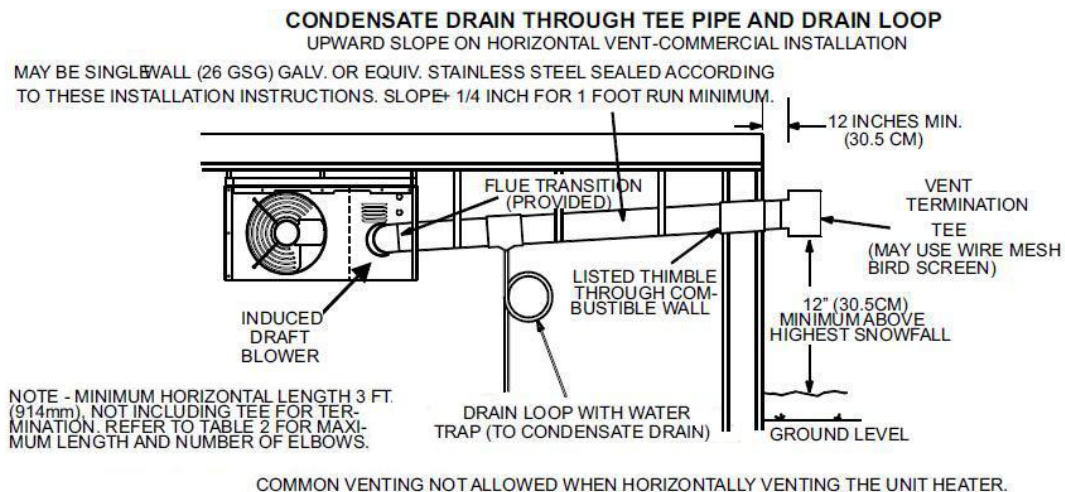

Fig.4
1. Horizontal commercial installations are for buildings which are not attached to living spaces. The vent may be single wall vent material installed according to the sections General Recommendations and Requirements and Horizontal Venting – General and Horizontal Venting – Commercial. See figures 4, 5, and 6.
4. Select a wall termination point that will maintain 1/4" (6mm) rise per foot (305mm) slope of horizontal run of vent pipe. The vent may be single wall material minimum 26 gauge galvanized steel or equivalent grade stainless steel. Seal single wall vent material according to the section General Recommendations and Requirements. In areas where local authorities having jurisdiction permit, a downward slope of maximum 1/4" (6mm) per foot (305mm) is also acceptable. In such cases, the vent must be listed special vent for Category III appliances or single wall vent pipe constructed of number 26 gauge galvanized steel or equivalent grade stainless steel. Seal single wall vent material according to the section General Recommendations and Requirements. Condensate drainage can be collected in a tee pipe section (figure 4) or allowed to drip through the vent termination, if permitted by local authorities.